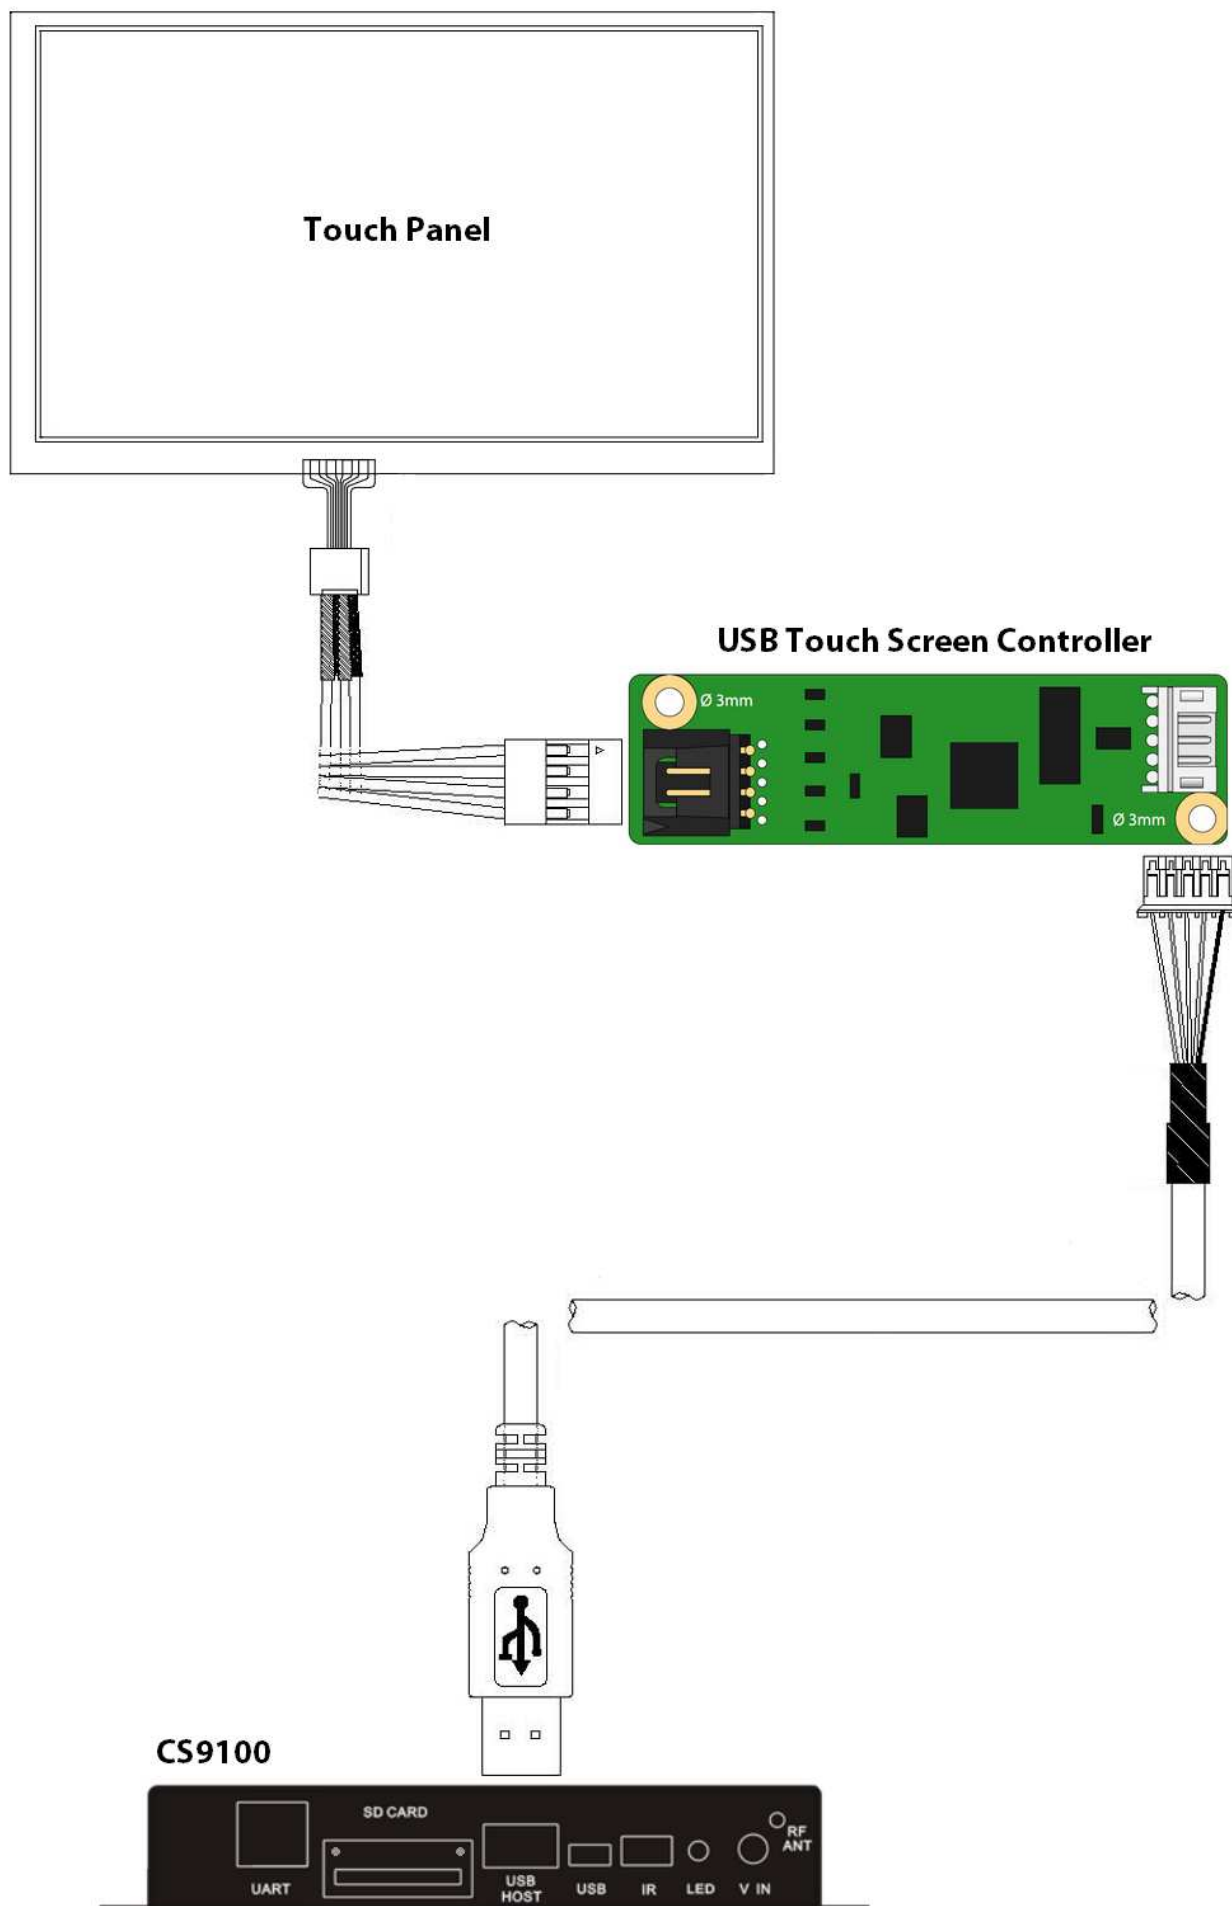

Figure 19
12.The wire connection diagram for connecting a touch panel to the CS9100 navigation block is shown below (**Fig. 19**).